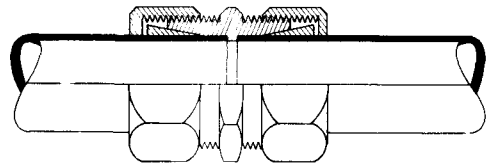

Fig. 29
96. The pipe joint shown in Fig. 29 is called a